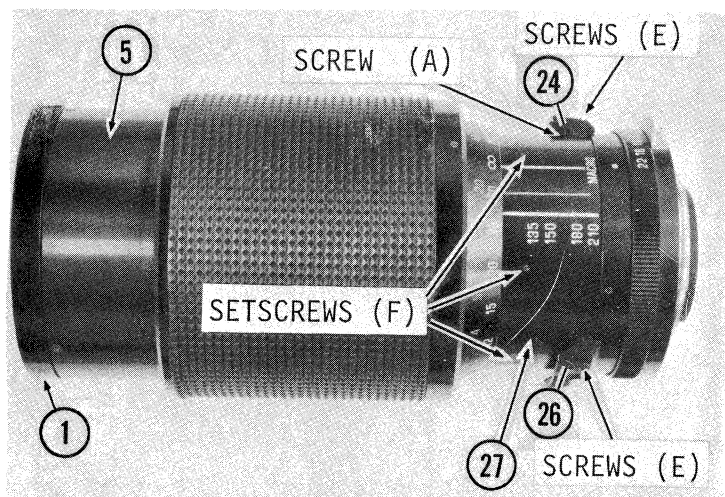

Fig. 1
- 1.1.2 Flow ketone solvent (such as acetone or methyl ethyl ketone) into the crevice between Filter Holder Ring (1) and Inner Focus Ring (5), to soften the sealant on their threads. Allow about three minutes for solvent to work, and then unscrew Filter Holder Ring. (Fig. 1)
- 1.1.3 Remove screws (E) and Change Levers (24) and (26). Latch Button (25) will come away with Lever (26). (Fig. 1)
- 1.1.4 Remove limiting screw (A), situated under Change Lever (24). (Fig. 1)
- 1.1.5 Remove five (six, in some lenses) setscrews (F) from Shift Ring (27). (Fig. 1)
- 1.2.8 Holding Change Ring firmly in contact with F/Stop Index Ring, install setscrews (F). (Fig. 1)
- 1.2.9 Assure that Latch Button (25) is fitted into Change Lever (26). (Fig. 1)
- 1.2.11 Install Change Levers (24 and 26) and screws (E). (Fig. 1)